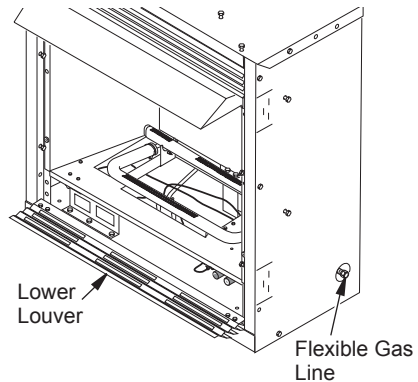

Figure 14 - Flexible Gas Line Location (Remote-Ready Unit Shown)
1. Open lower louver (see Figure 14).